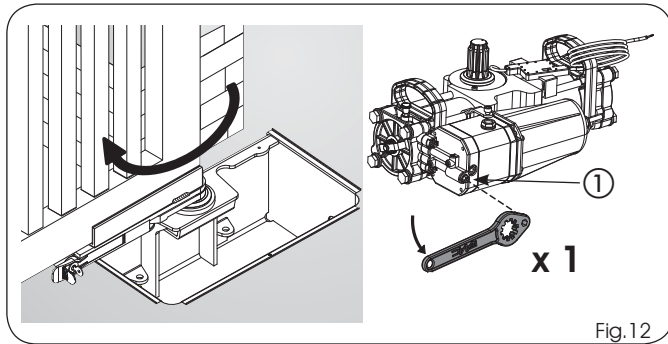

Fig.12
- 2) Referring to the instructions in chapter 7.1, act on the operator's hydraulic release by turning the lever (Fig.1 ref.⑥) or using the specific key (Fig.1 ref.⑱) turn the release screw (Fig.12 ref.①).